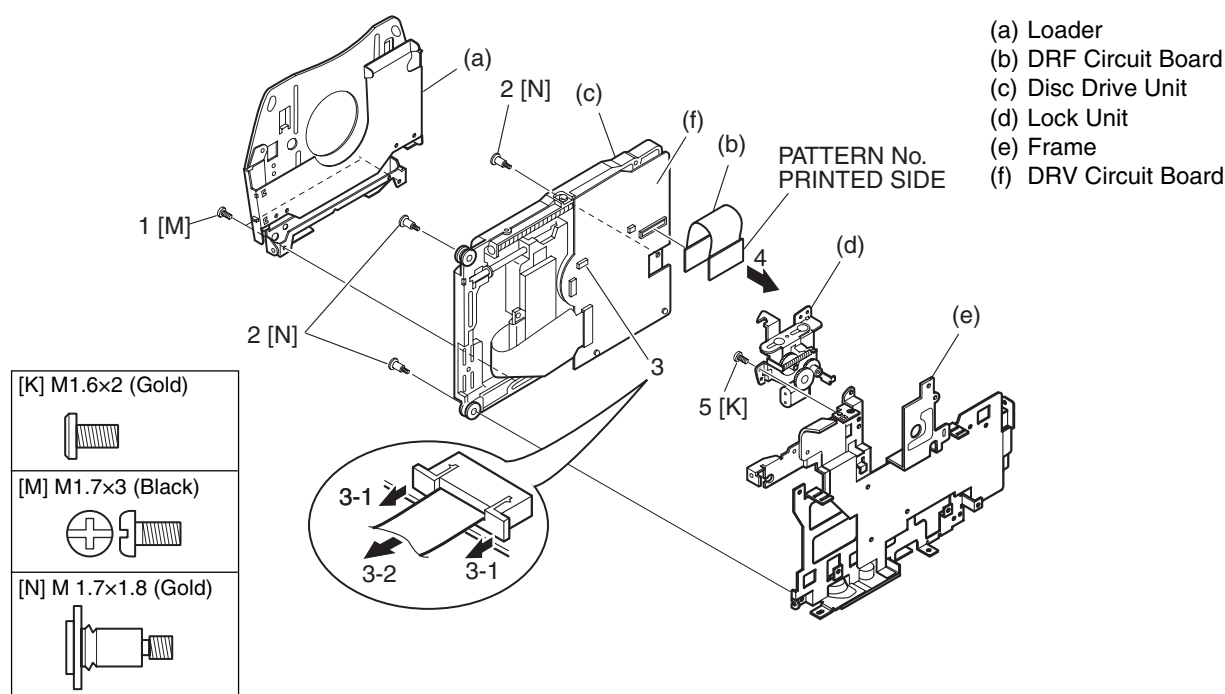

Fig. 5-3-21 Loader, DRF Circuit Board, Disc Drive Unit, and Lock Unit
(17) Loader, DRF Circuit Board, Disc Drive Unit, and Lock Unit (Fig. 5-3-21)